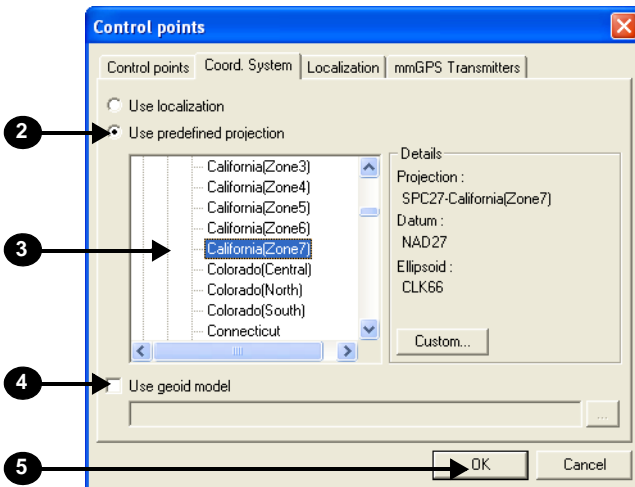

Figure 9-15. Select Projection
3. Navigate through the projection tree to select the projection for the applicable geographical area. Projection, datum, and elevation information will display (Figure 9-15).
5. Click **OK** to save the setting(s) and apply them to the project (Figure 9-15).